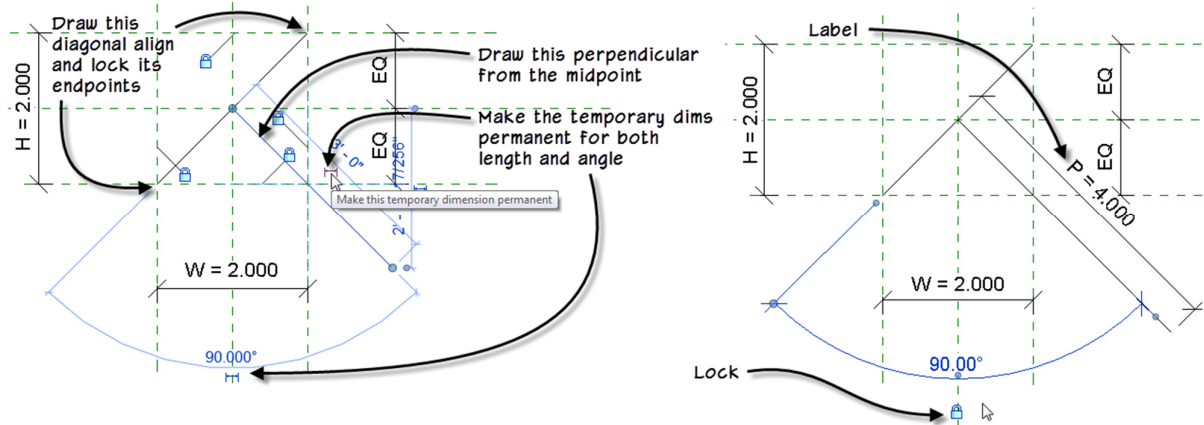

Figure 11— Build the rig in a Detail Item family
- ⇒ Lock the angle dimension to keep it at 90° (see Figure 11).